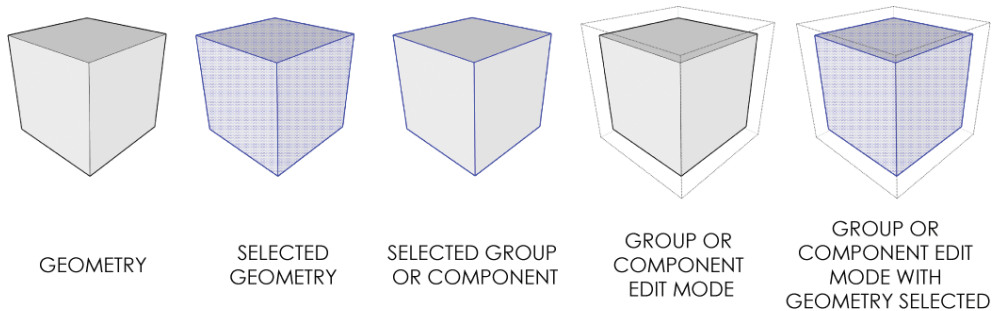

Figure 4.54 Use the Select tool to select entities and navigate quickly in and out of containers.
1. Using the Select tool, double-click on a container to move in one level (Figure 4.54).